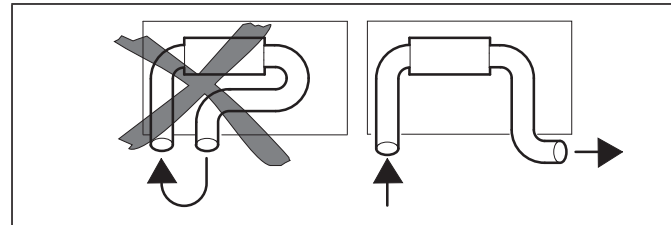

Fig. 6: Hot air inlet and hot air outlet
- Air short circuit between the heater's air inlet and the heater's air outlet (Figure 6)